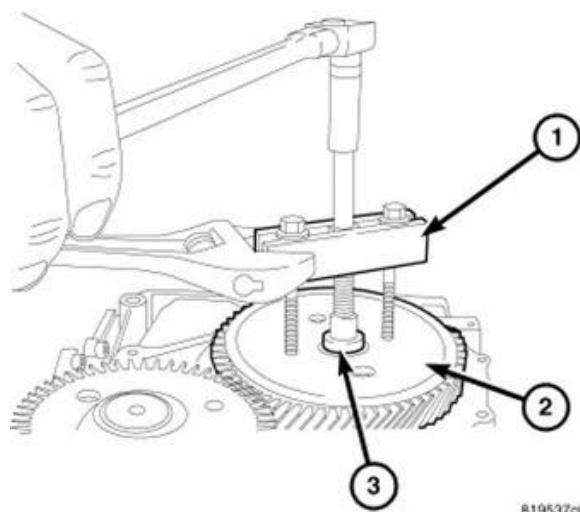

**Figure 23 – Transfer Gear Puller**
35. Using Gear Puller L-4407A (1) and Thrust Button 6055 (3) release the transfer gear (underdrive compounder side) (2) then remove the gear puller (Figure 23).